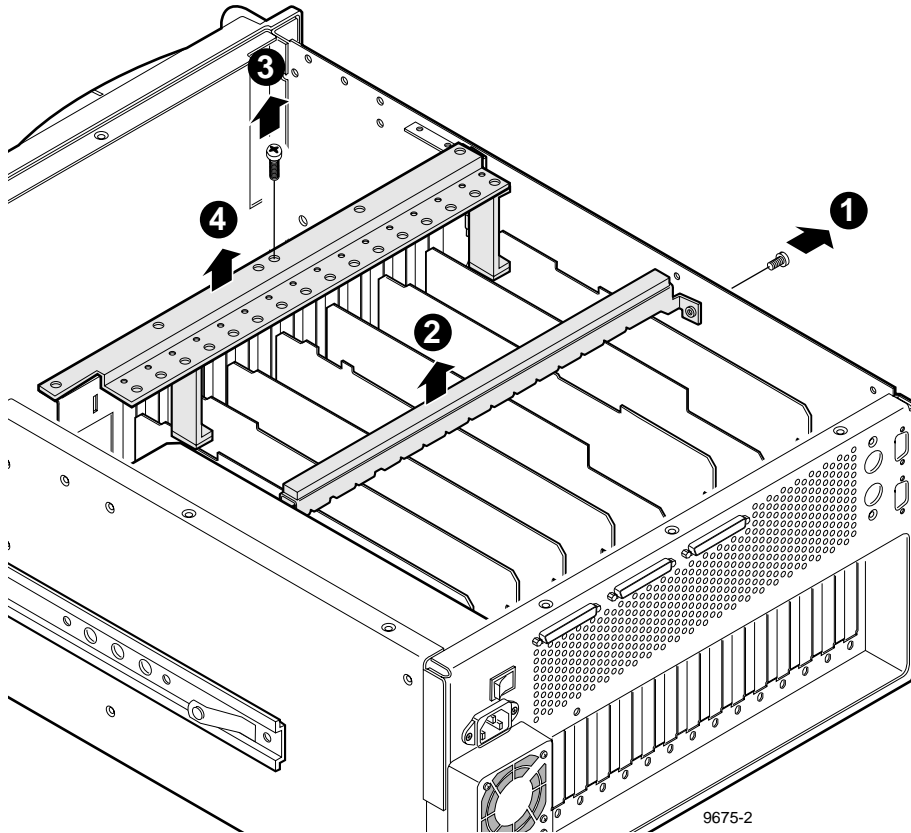

Figure 2. Removing the circuit board hold-down brackets
1. Use the Torx tool with the T10 tip to remove the exterior screw (❶ in Figure 2) that secures the rear board hold-down bracket.
2. Lift the bracket (❷ in Figure 2) up and out of the chassis and set it aside.
3. Use the Torx tool with the T10 tip to remove the interior screw (❸ in Figure 2) that secures the front board hold-down bracket.
4. Lift the bracket (❹ in Figure 2) up and out of the chassis and set it aside.